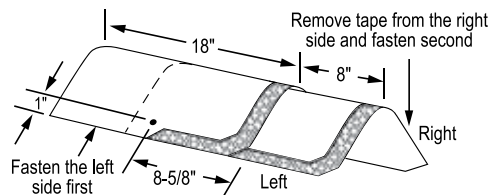

Figure 16-16: Installation of Shangle Ridge shingle on hips and ridges.
7. Fasten each cap with two fasteners (see Figure 16-16). The fasteners must be 1-3/4" (45 mm) long, or longer, so they penetrate either 3/4" (19 mm) into the deck or completely through the deck, exposing at least 1/8" (3.2 mm) of the tip of the nail. Expose 8" (203 mm) of the accessory along the ridge or hip line and cover all fasteners.